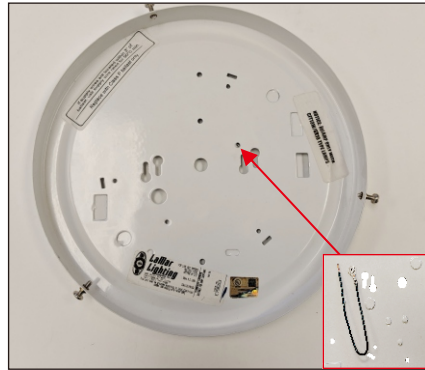

Figure 1
1. Start by removing the original lamp, ballast and socket from the luminaire see Figure 1.